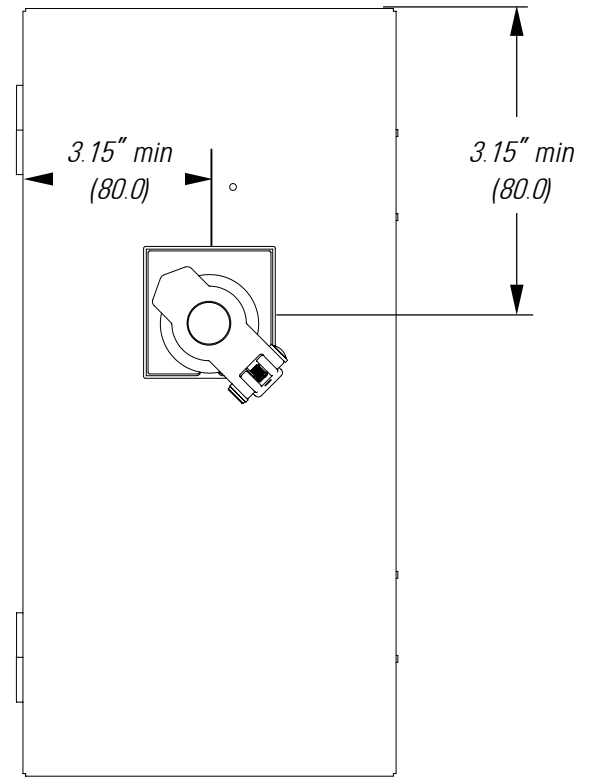
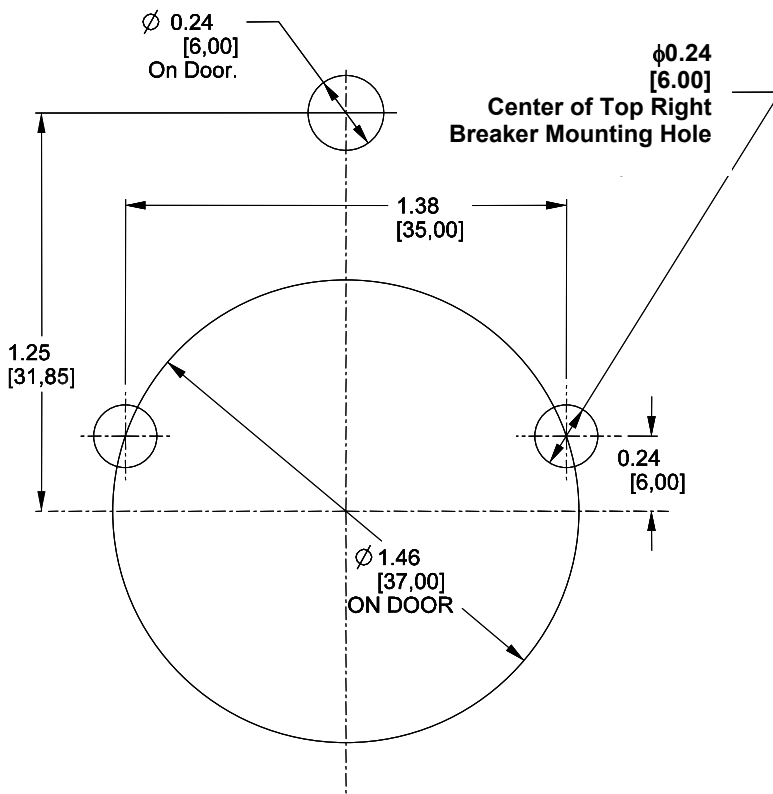
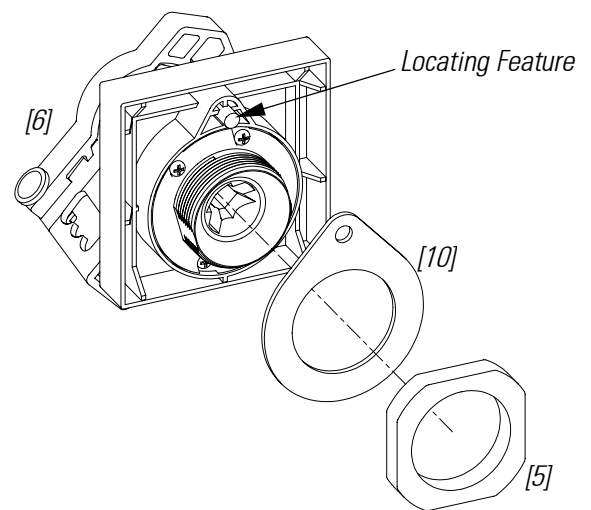

Figure 10. FENRH handle location on the enclosure door.
Figure 9. Hole pattern for mounting the handle assembly on the enclosure door.
Figure 11. Installing the rotary handle assembly.
1. Drill holes on the enclosure door to accommodate mounting the handle assembly, as shown in Figure 9. The handle location on the door is illustrated in Figure 10. Be sure that the larger hole in Figure 9 is centered over the end of the crank assembly or the extension shaft, as appropriate.
2. Place the rotary handle assembly [6] on the door with the locating feature, shown in Figure 11, placed in the small hole drilled in step 1. Handle to be rotated to OFF position while locking as shown in Fig10.